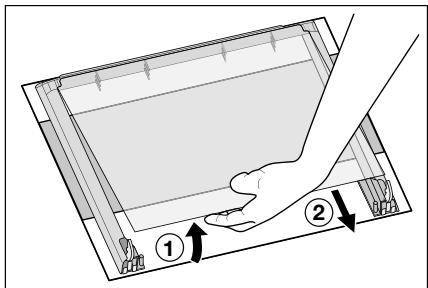

Fig. 29
9. Gently lift and carefully take off the uppermost pane (Fig. 29).